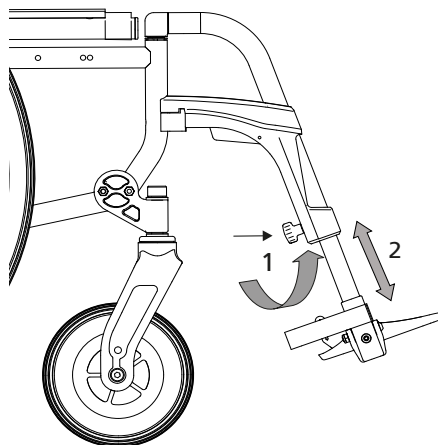

fig.13
1. To do this, release the threaded connection one quarter of a turn and pull the locking mechanism backwards. (1, Fig. 13).
2. Move the foot plate into a position that is comfortable for you and release the locking mechanism again. The mechanism automatically locks in the next position. (2, Fig. 13).